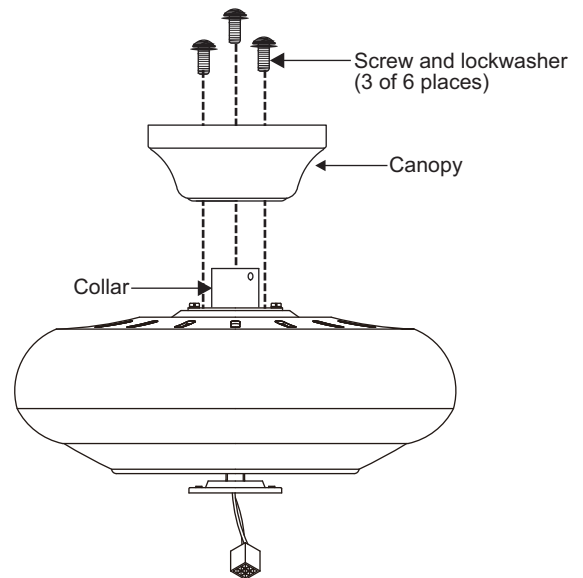

Figure 9
5. Remove three of the six screws and lock washers (every other one) from the collar of top motor. (Fig. 9)
6. Place the ceiling canopy over the collar at the top of the motor. Align the mounting holes with the holes in the motor and fasten using the screws and lock washers provided. (Fig. 9)
7. Tighten the mounting screws securely. (Fig. 9)